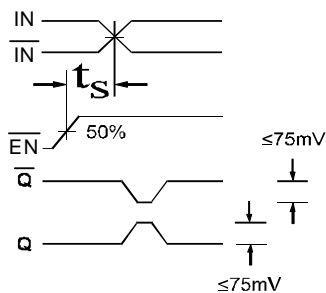

Figure 1. Setup Time
- The setup time is the minimum time that EN must be asserted prior to the next transition of IN/  $\bar{IN}$  to prevent an output response greater than  $\pm 75mV$  to that IN/  $\bar{IN}$  transition (see Figure 1).